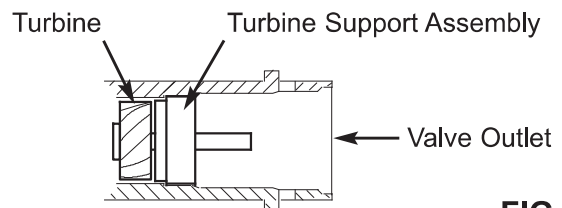

FIG. 11
- c. Be sure the turbine and support are in place in the valve outlet, as shown in Figure 11.